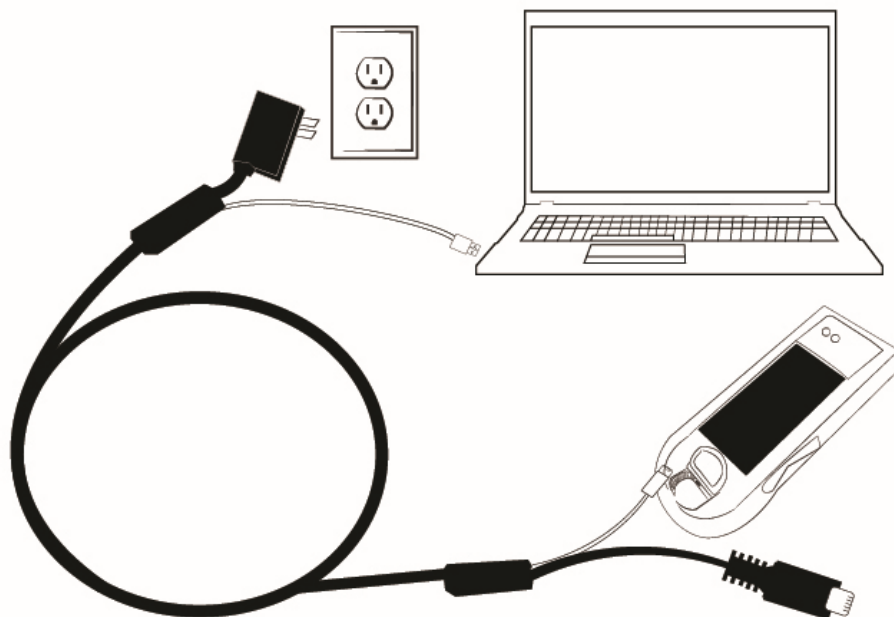

Figure 10: Connecting MolecuLight *i:X* to a computer to transfer images/videos
1. Connect the white connecting cable on the MolecuLight Power Cable (P/N 1142) to the port on the MolecuLight *i:X* Display Screen. Connect the USB connector end of the white connecting cable to your computer as shown in Figure 10. When prompted to 'allow' or 'trust' the computer on the MolecuLight *i:X* Display Screen, you may do so.